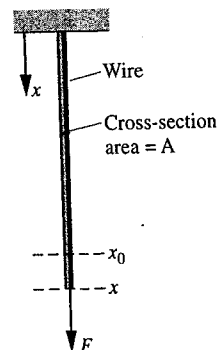

Fig. P2.40
2.40 As shown in Fig. P2.40, a steel wire suspended vertically having a cross-section area  $A$  and an initial length  $x_0$  is